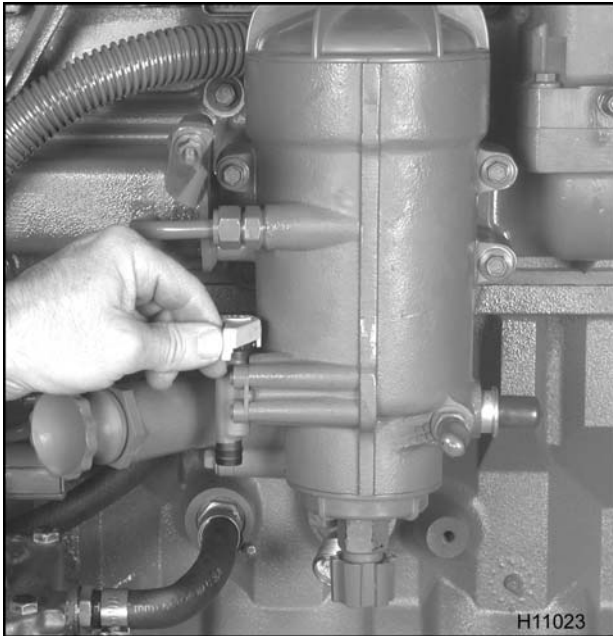

Figure 526 Water drain valve
1. Drain fuel filter assembly (Figure 526), if not done so already.